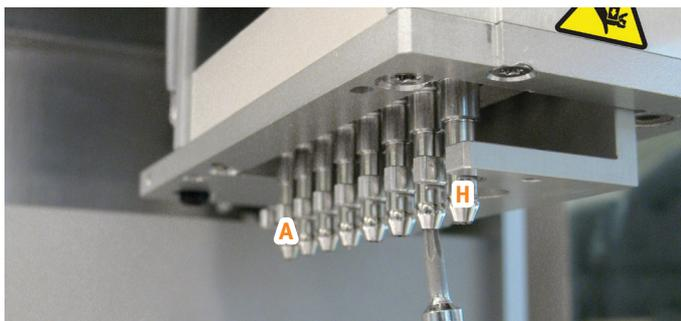

Figure 107. There are eight positions for nozzles on the pipette head, with A in the inner position and H in the outer position.
6. Ensure that the correct nozzles are mounted on the pipette head; see Table 5 above. Remove/mount nozzles using the supplied T9 Torx screwdriver; see Figure 107. Place unused nozzles in a clean and dust-free container with a lid.